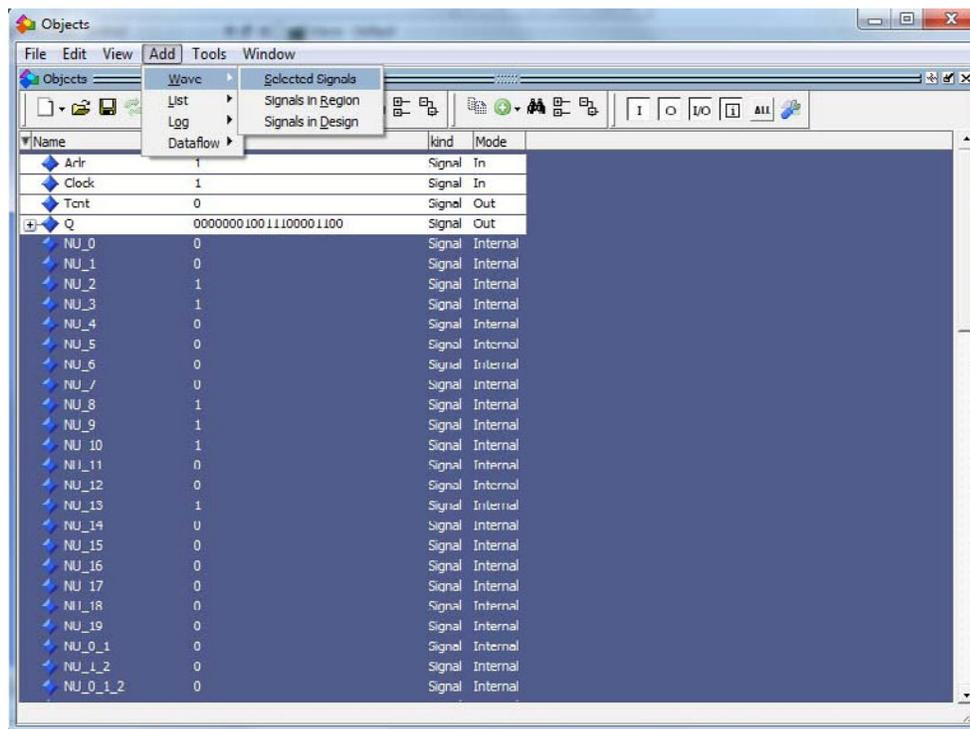

Figure 4-8 • Adding Signals to the Wave Window
10. Add the signals to the Wave window: from the **ModelSim** menu, choose **Add > Wave > Selected Signals** (Figure 4-8).
- Observe the operation of the counters to confirm the design is working. Use the zoom buttons to zoom in and out as necessary (Figure 4-8).